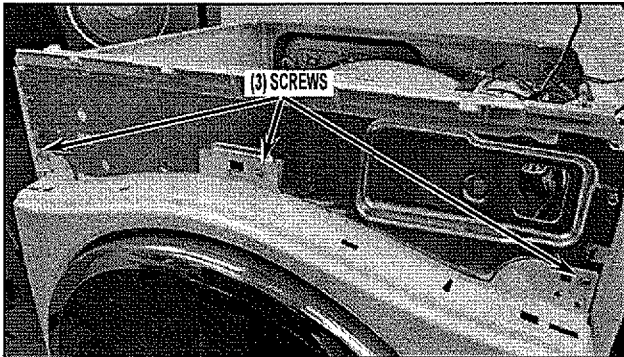

FIGURE 7
- Remove the three (3) screws from the top of the front panel as shown in *Figure 7*.